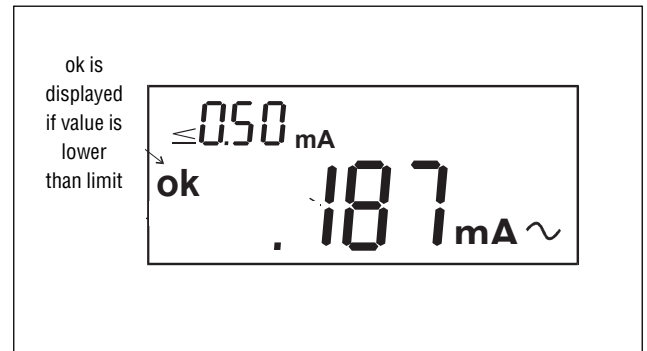

Fig. 7.31
- LCD indicates phase position at left connection of Test Mains Socket, i.e. indicating the position of phase polarity. L and N connection assignment may be opposite (depending on mains cable connection of UNITEST MACHINEmaster). Display of measurement value after approx. 1 s (Fig. 7.31).
- LCD indicates phase position at left connection of Test Mains Socket, i.e. indicating the position of phase polarity. L and N connection assignment may be opposite (depending on mains cable connection of UNITEST MACHINEmaster). Display of measurement value after approx. 1 s (Fig.7.31).